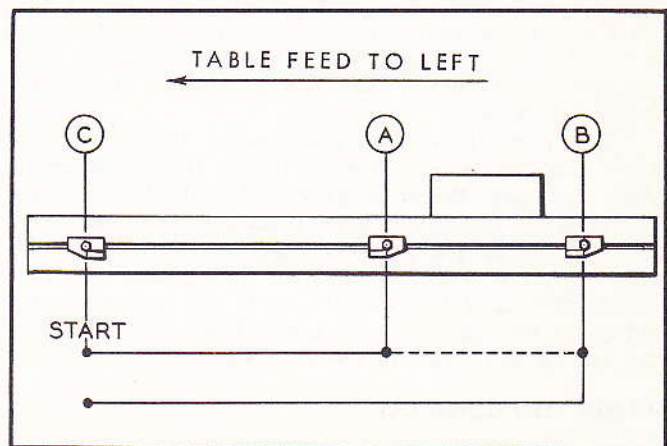

Fig. 9. Use of Table Dogs
The four table dogs when properly used insure safe operation and speed production. Figure 9 illustrates the manner in which the dogs would be positioned for a typical setup. After the workpiece has been secured, the table is moved at the rapid traverse rate (indicated by a full line) until the dog (A) shifts the table trip lever to the neutral position and stops the table. This dog must be positioned to stop the table just before the cutter contacts the workpiece. This prevents any possibility of the cutter engaging the workpiece when the table is moving at the rapid traverse rate and still permits the workpiece to be brought to the cutter in the shortest possible time. Then, by raising the table lever to bypass the dog and shifting it in the desired direction, the table will feed (dotted line) until the cutting operation is completed and the dog (B) shifts the lever to neutral and stops the table. The table can